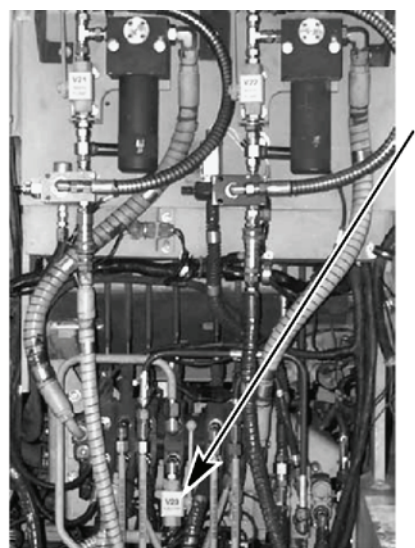

Figure 15. DCV Bank
- Manually open the ejector inhibit ball valve V23 (Figure 15, item 1) on the DCV bank.